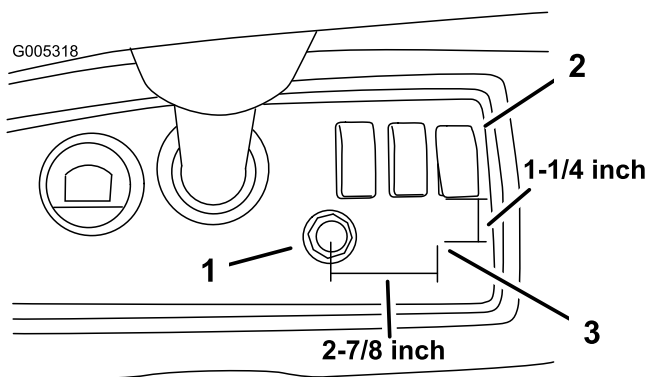

Figure 6
1. On the dashboard, from the operator's position, measure 2-7/8 inches to the right of the center of the key hole and 1-1/4 inch from the bottom edge of the switch cluster (Figure 6). Mark the dash at that point.
2. Drill a 7/8 inch diameter hole at the mark in the dash (Figure 6).